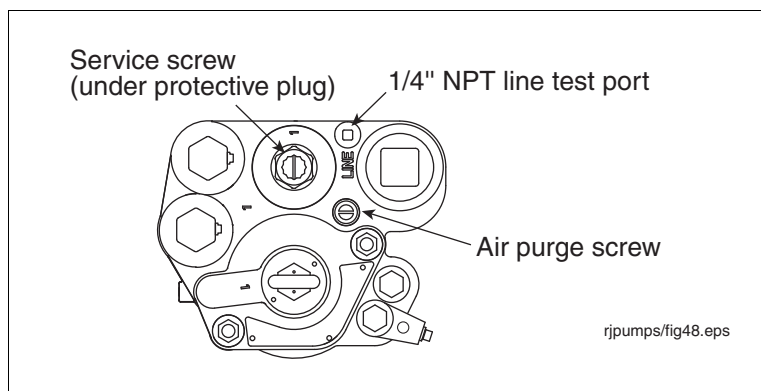

Figure 42. Locating Pump Line Test Port
- Pressure may be observed using a gauge attached at the impact valve or to the pump's line test port (see Figure 42).
2. Remove and save the protective plug over the service screw and turn the screw clockwise (see Figure 42). As the screw approaches its bottom position, you will hear the system depressurizing. Continue turning the screw until it can go no further. When the screw is all the way down, back off the screw 4 turns to lift the check valve and let the fuel drain out of the manifold's hydraulic cavities. Continue to turn the screw all the way counterclockwise. When the screw is almost up, the check valve will drop down into position.
3. Remove the line test port plug (see Figure 42) and attach test gauge.
4. Open the air purge screw 2 - 3 turns counterclockwise (see Figure 42).
2. Remove and retain the protective plug over the service screw and turn the screw clockwise (see Figure 42). As the screw approaches its bottom position, you will hear the system depressurizing. Continue turning the screw until it can go no further.